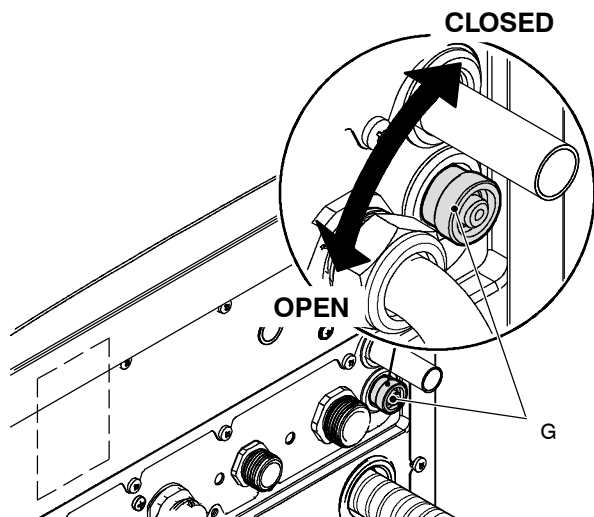
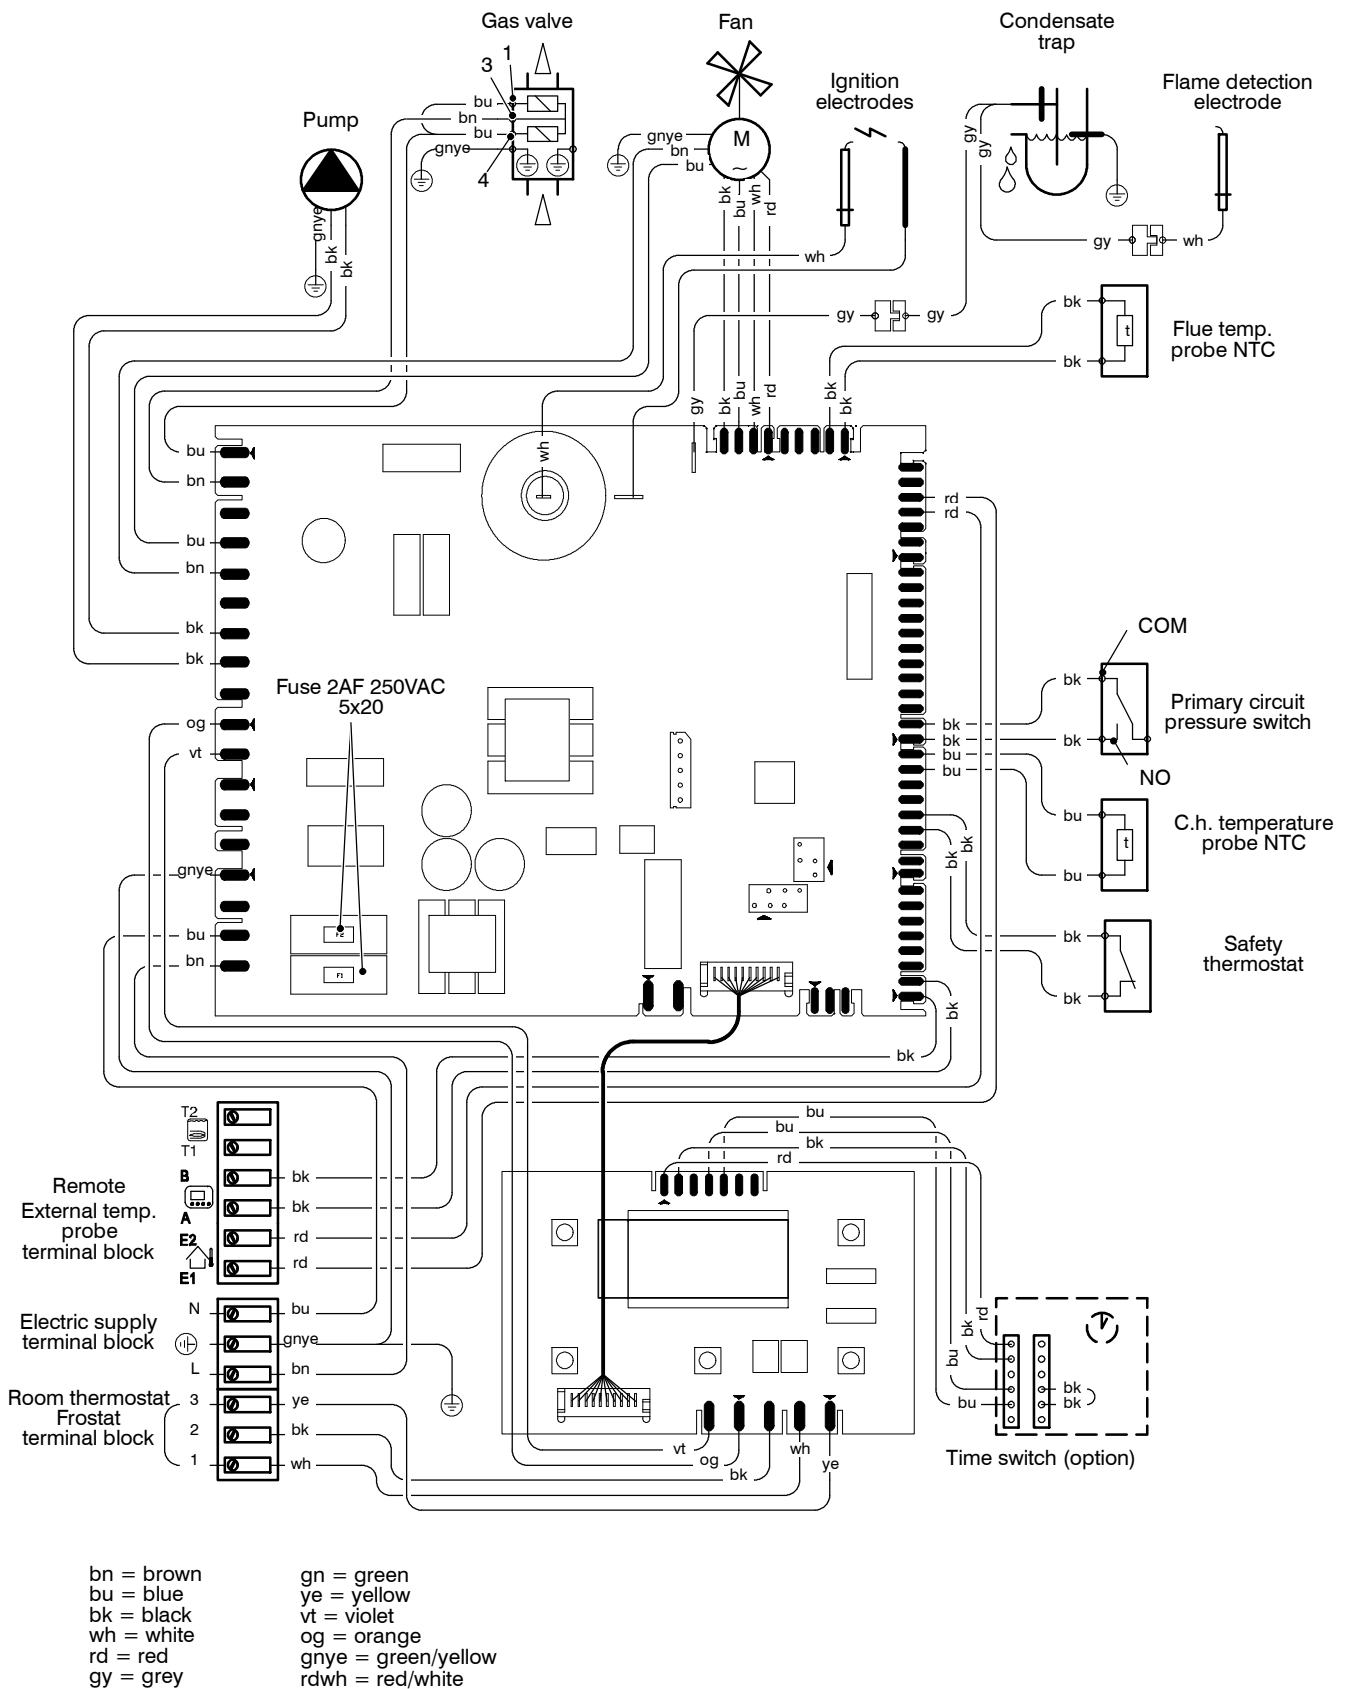

Fig. 2.10
Fig. 2.11
- 3 Open the drain tap *G* (Fig. 2.10 combi or Fig. 2.11 only c.h.) until the boiler is completely emptied.